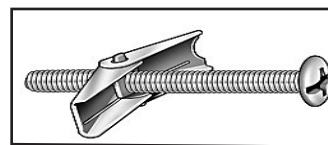

Figure 29 3/16 Toggle-Bolt Anchor
- Every mounting hole that does not align with a structural framing member, a wall board toggle-bolt anchor must be used. See Figure 29.